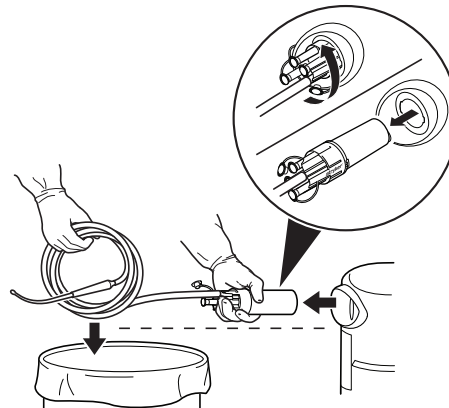

Figure 8 To Remove Manifold and Tubing
4. Rotate the manifold until it is unlocked, then pull the manifold and attached suction tubing out of the receptacle, always keeping the manifold in a horizontal orientation (Figure 8).